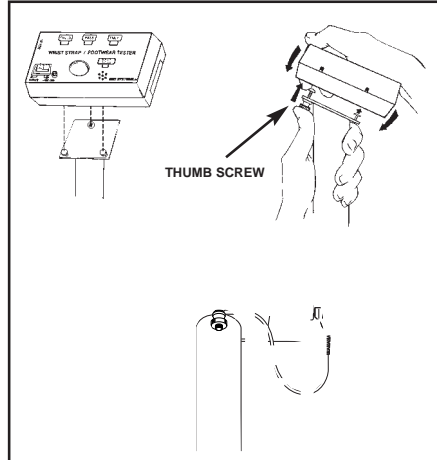

Figure 10. Installing Tester on bracket and securing Tester to bracket
D. Install the Tester on the bracket by aligning keyholes on the back of tester with mounting studs on bracket. While pushing up on thumb screw, insert the mounting studs into the keyholes and slide the tester down. See Figure 10.